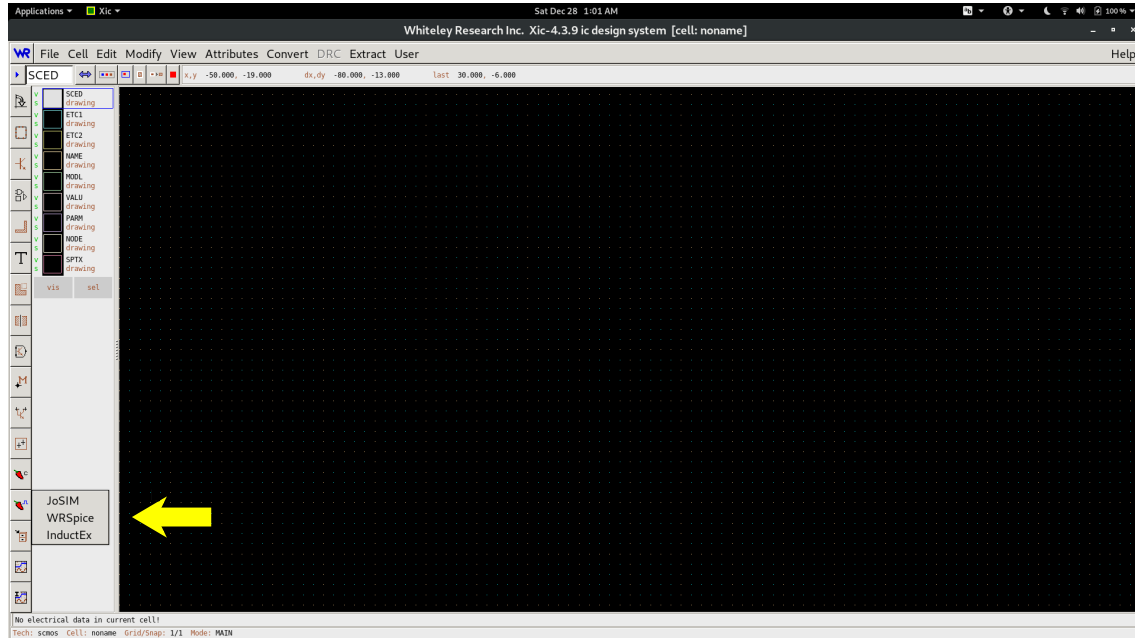

Figure 1: The Run command visible in the Electrical View of XIC. JoSIM, WRSpice and InductEx is executed from the Run command.
5. **It is recommended to use the WRSpice method first.** Run WRSpice using run → WRSpice on the side menu and follow the instructions. Figure 1 shows the Run command.
5. Run InductEx using run → InductEx on the side menu. Figure 1 shows the Run command.